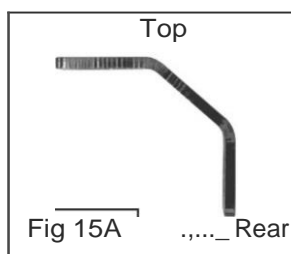

Fig 15B
11. Move along the side of the vehicle to approximately the center/back of the front door. Locate the single hole in the back of the outer frame channel, (**Figure 15B**). Remove rubber plug if equipped. Next locate and remove the (2) rubber plugs from the bottom of the outer frame channel. Repeat **Steps 2-5** to install the (2) Bolt Plates and (1) Long Center Lock Plate to the bottom of the frame channel, (**Figures 138 & 14**).